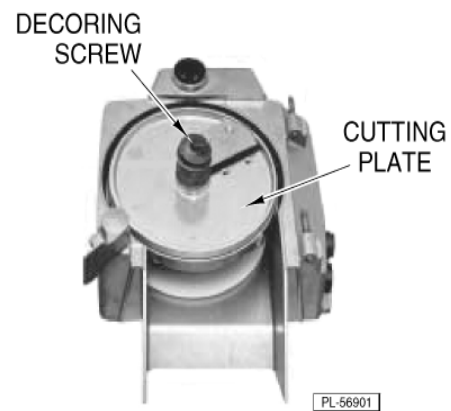

Fig. 4
6. **Avoid contact with sharp knife on the cutting plate** and put the desired cutting plate on the shaft and turn the cutting plate until it falls onto its coupling (Fig. 4). Turn counterclockwise to lock.
7. Put the decoring screw on the shaft. Turn it counterclockwise to tighten (Fig. 4).